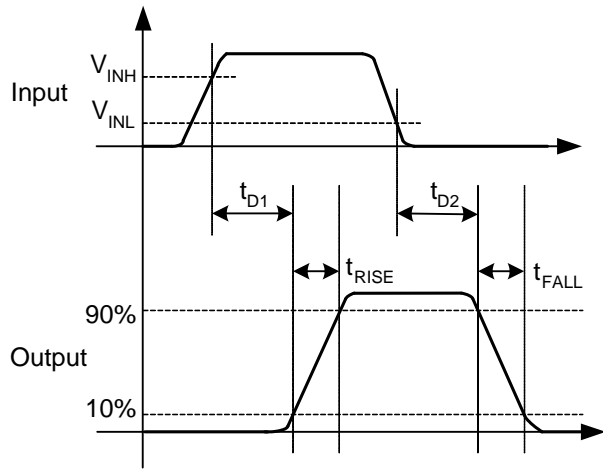

Figure 8. Non-Inverting (EN HIGH or Floating)
14. See *Timing Diagrams of Figure 8 and Figure 9*.